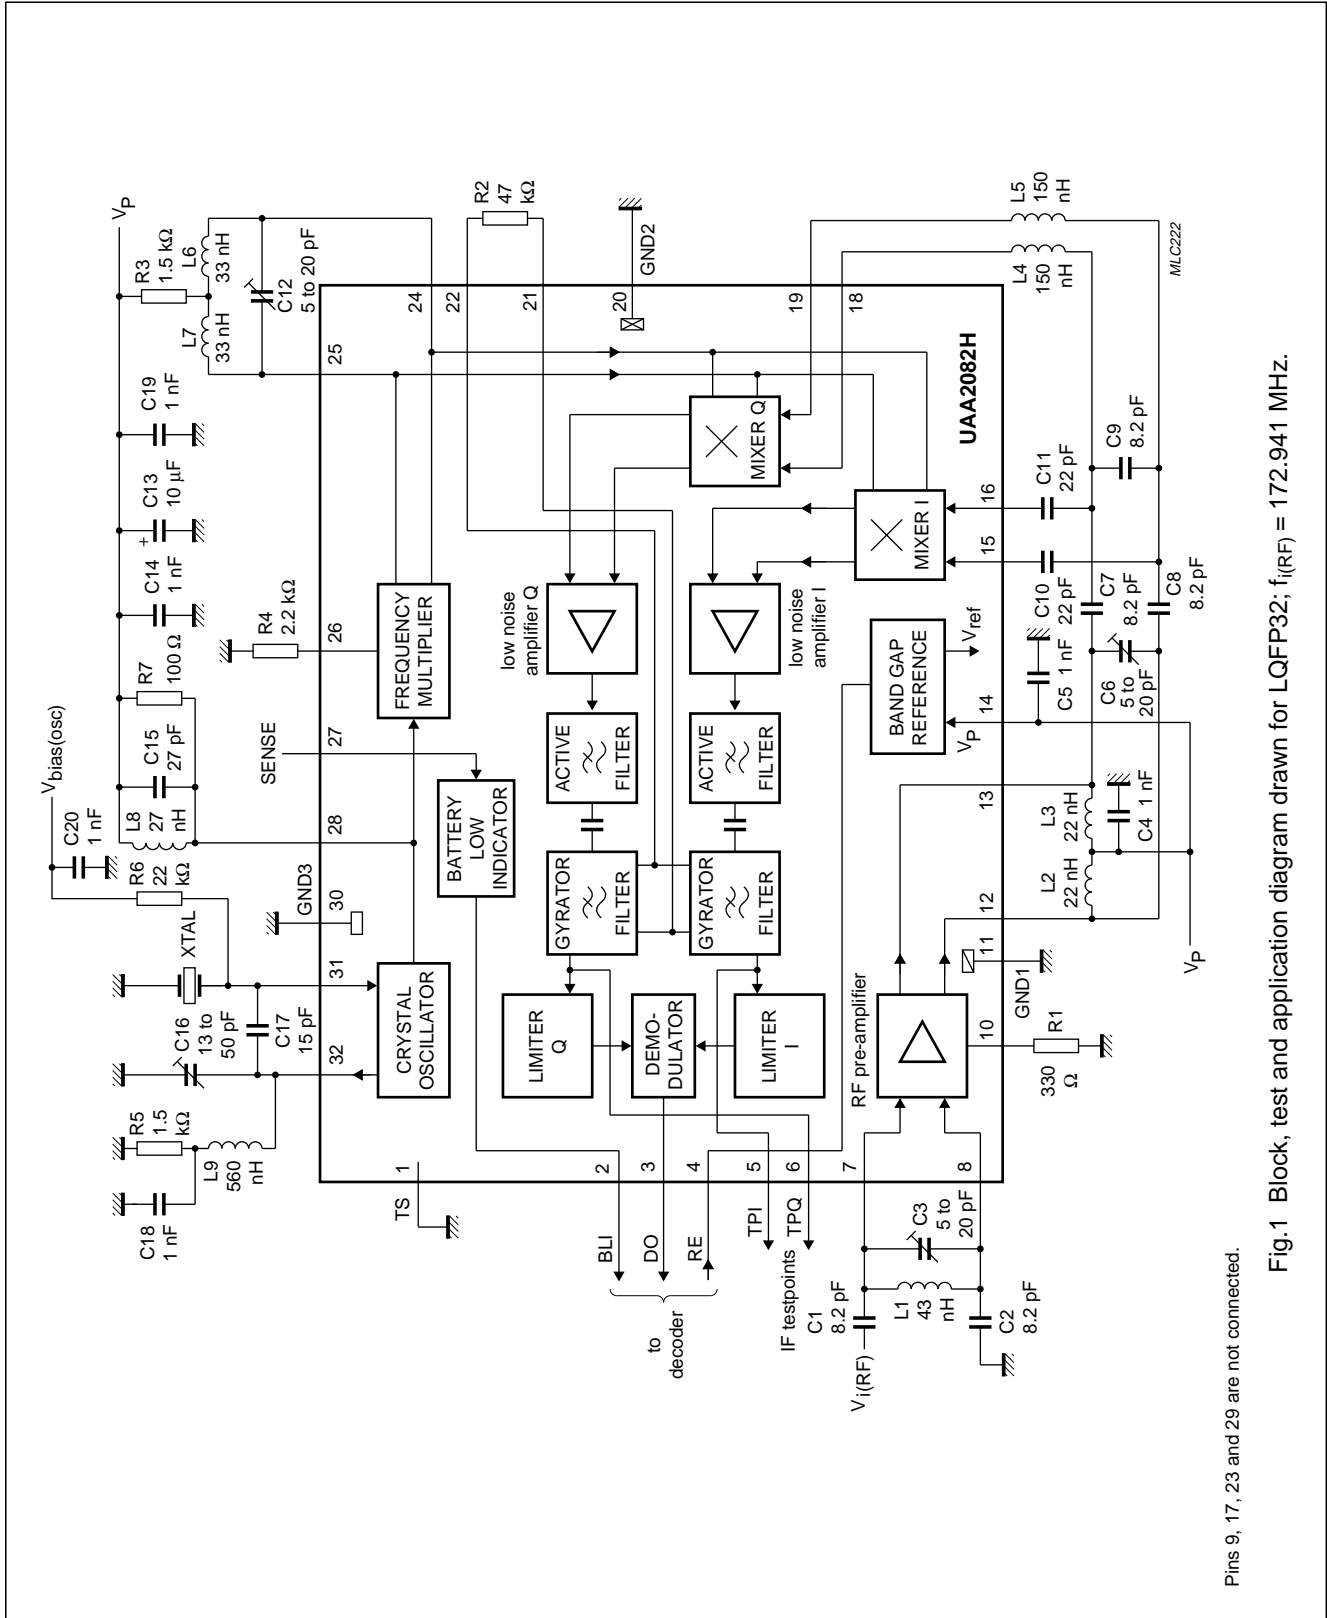

Fig.1 Block, test and application diagram drawn for LQFP32; fi(RF) = 172.941 MHz.
**Table 1** Tolerances of components shown in Figs 1 and 2 (notes 1 and 2)